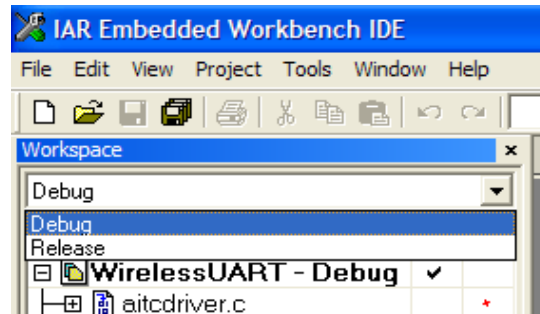

Figure 1-12. IAR Embedded Workbench Work Space Debug and Release Window
1. To debug an application select “Debug” at the Work space window as shown in Figure 1-12.